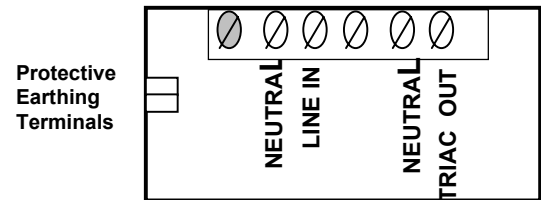

Figure 4
- 6. Connect each wire to the appropriate locations noted in the table below and secure the wires in the terminal block and protective earthing terminal by turning each screw clockwise. *(Refer to the MX001 box or to Figure 4 for the order of the terminals for the power wires.)*